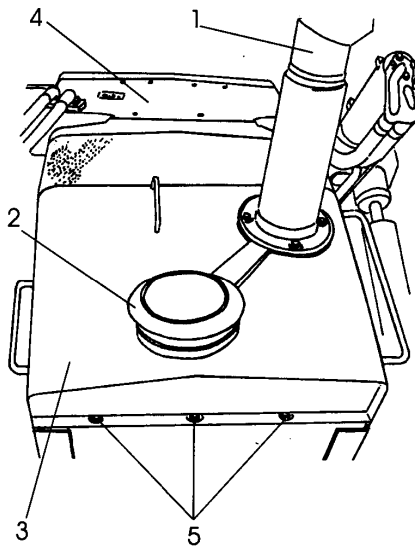

Fig. 4.3. Disassembly Points.
10. Remove bolts securing front shield (3, Fig. 4.3). Remove the shield.
11. Remove bolts (5) securing roof (3, Fig. 4.3) to bracket and catch (1, Fig. 4.7). Remove the roof.